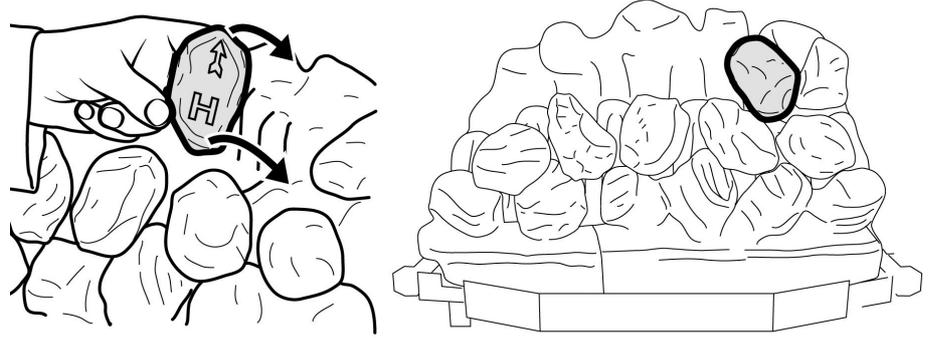

Figure 18. Second row "Coal H"
12. Hold coal 'H' upright with the arrow pointing to the top. Locate coal 'H' as shown in figure 18.